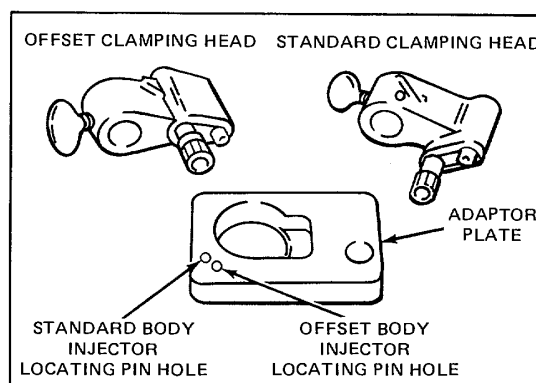
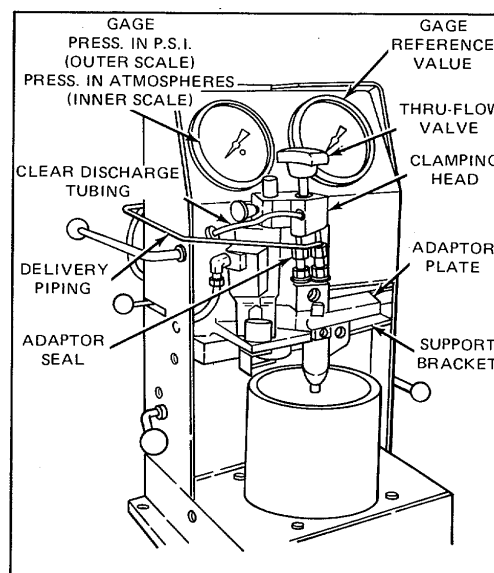

Figure 11. Injector Tester J23010 Clamping Heads
Figure 12. Injector Installed in Tester J23010 with Clamping Head
1. Select the proper clamping head (Fig. 11). Position it on the clamping, post and tighten the thumbscrew into the lower detent position (Fig. 12).
5. Mount the injector through the large hole and insert the injector pin in the proper locating pinhole (Fig. 11).
2. Align the clamping head nylon seals over the injector filter caps (Fig. 12).